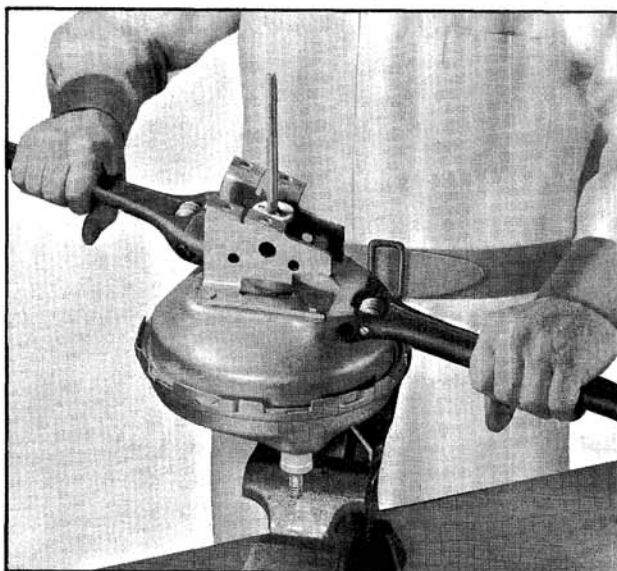

Fig. 11-58 Removing Rear Housing
6. Brush locking tangs of front and rear housings liberally with seal lubricant. Rotate rear housing to separate the housings. Tap rear housing lightly with a plastic hammer to assist in removal. (Fig. 11-58)